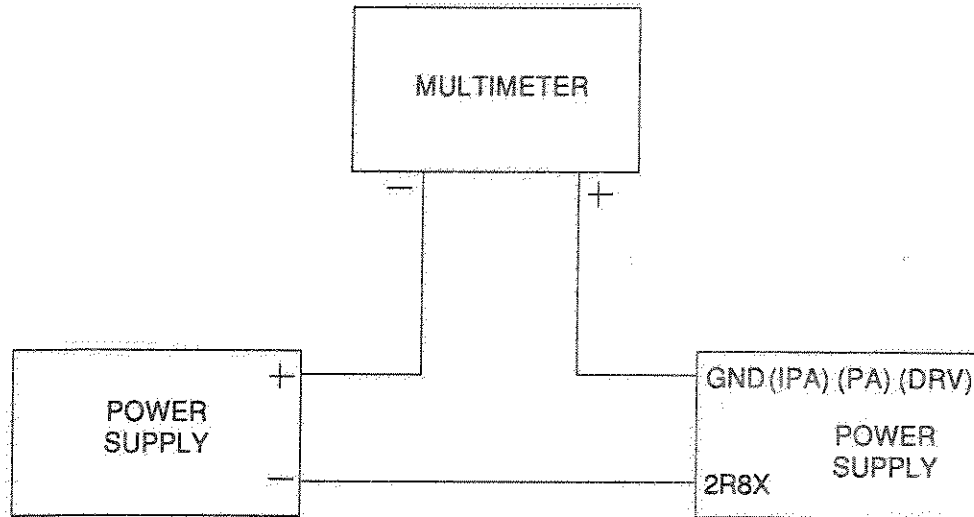

Figure 6-106.1. Screen DC Overload Adjustment Connection Diagram
6. With power supply turned off, connect power supply negative output to junction of IPA Screen Supply resistor 2R84 and 2R87. See Figure 6-106.1.
7. Connect multimeter in line with the Power supply to monitor current as shown in Figure 6-106.1.
6. With power supply turned off, connect power Supply negative output to junction of Driver Screen Supply resistor 2R83 and 2R86. See Figure 6-106.1.
7. Connect multimeter in line with the power supply to monitor current as shown in Figure 6-106.1.
6. With power supply turned off, connect power supply negative output to the junction of PA Screen Supply resistor 2R82 and 2R85. See Figure 6-106.1.